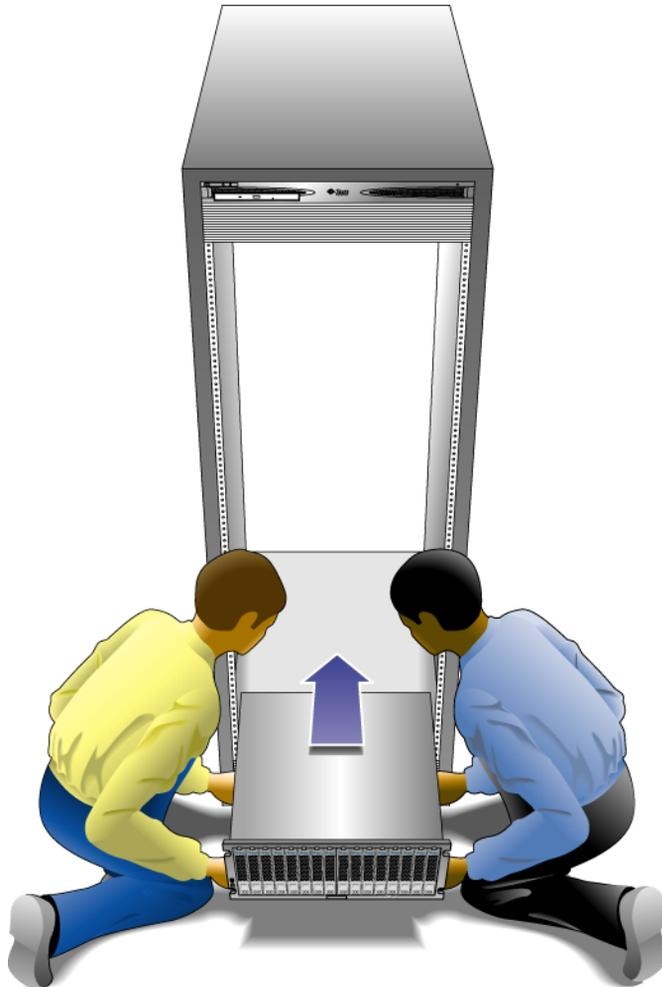

FIGURE 2-17 Positioning the Tray in the Cabinet
1. Using two people, one at each side of the tray, carefully lift and rest the tray on the bottom ledge of the left and right rails (FIGURE 2-17).